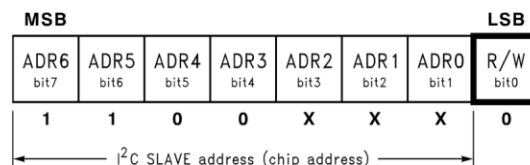

Figure 4. Chip Address Byte
5. The LP3943 provides for an externally selectable I2C slave address via the ADR0, ADR1, and ADR2 inputs. See Figure 4.
After the START condition, a chip address is sent by the I²C master. This address is seven bits long followed by an eighth bit which is a data direction bit (R/W). The LP3943 hardwires bits 7 to 4 and leaves bits 3 to 1 selectable, as shown in Figure 4. For the eighth bit, a "0" indicates a WRITE and a "1" indicates a READ. The LP3943 supports only a WRITE during chip addressing. The second byte selects the register to which the data is written. The third byte contains data to write to the selected register.